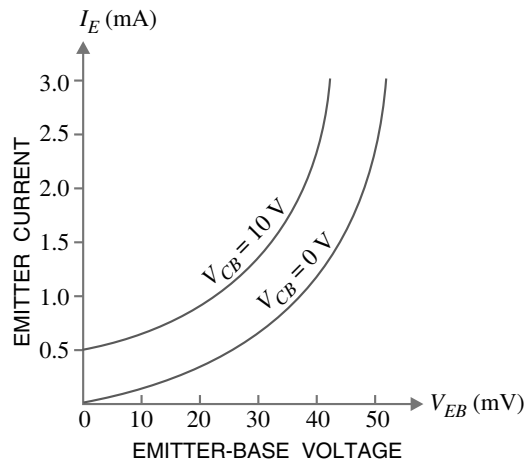

Fig. 6.15
1. Input characteristic. It is the curve between emitter current I_E and emitter-base voltage V_{EB} at constant collector-base voltage V_{CB} . The emitter current is generally taken along y -axis and emitter-base voltage along x -axis. Fig. 6.15 shows the input characteristics of a typical transistor in CB arrangement. The following points may be noted from these characteristics: